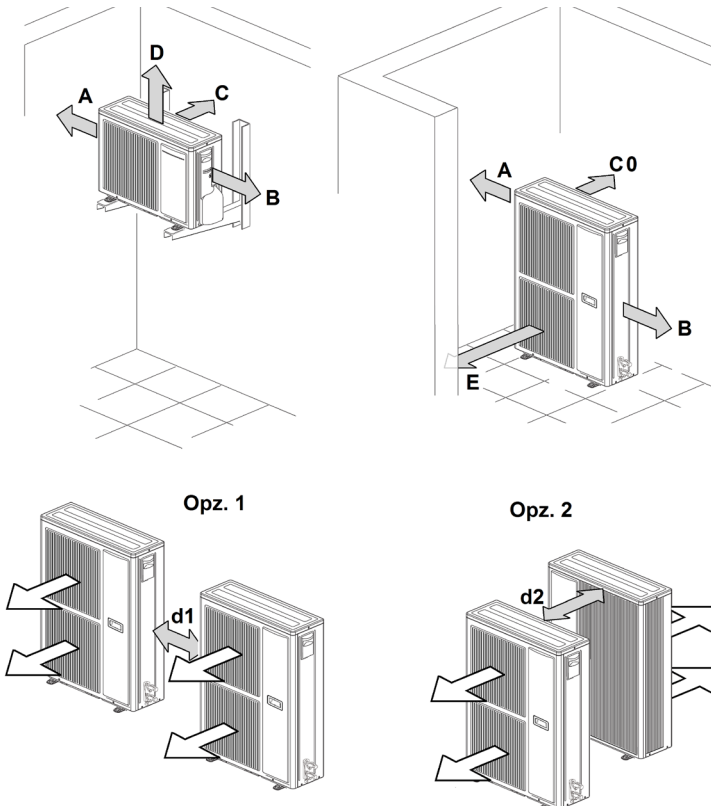

fig. 4
- Position it respecting the minimum distances from walls, furniture or other objects (Fig. 4).